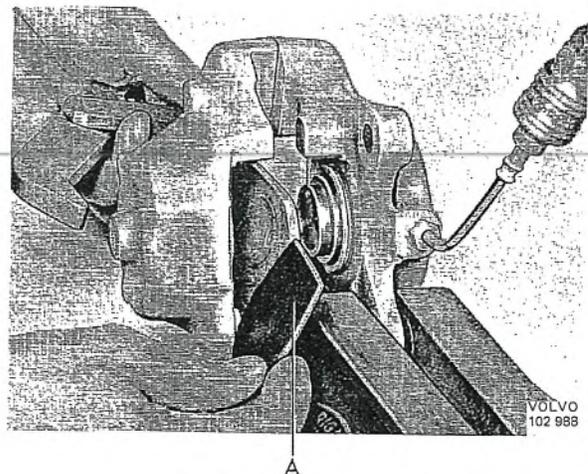

Fig. 5-28. Removing piston
3. If a piston feels stiff to remove, connect up an airline, see Fig. 5-28. If one of the pistons is removed, the cylinder can be sealed by means of a rubber washer and 2809 (see Fig. 5-28).